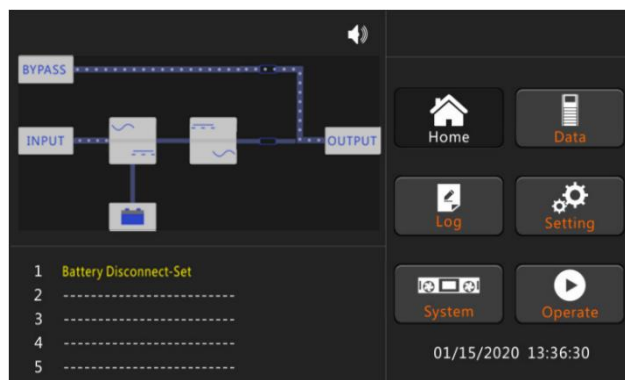

Fig.4-2 LCD of bypass starting
5. After about 30S, the rectifier start is completed, the bypass static switch is on, and the bypass indicator flashes, as shown in Figure 4-2